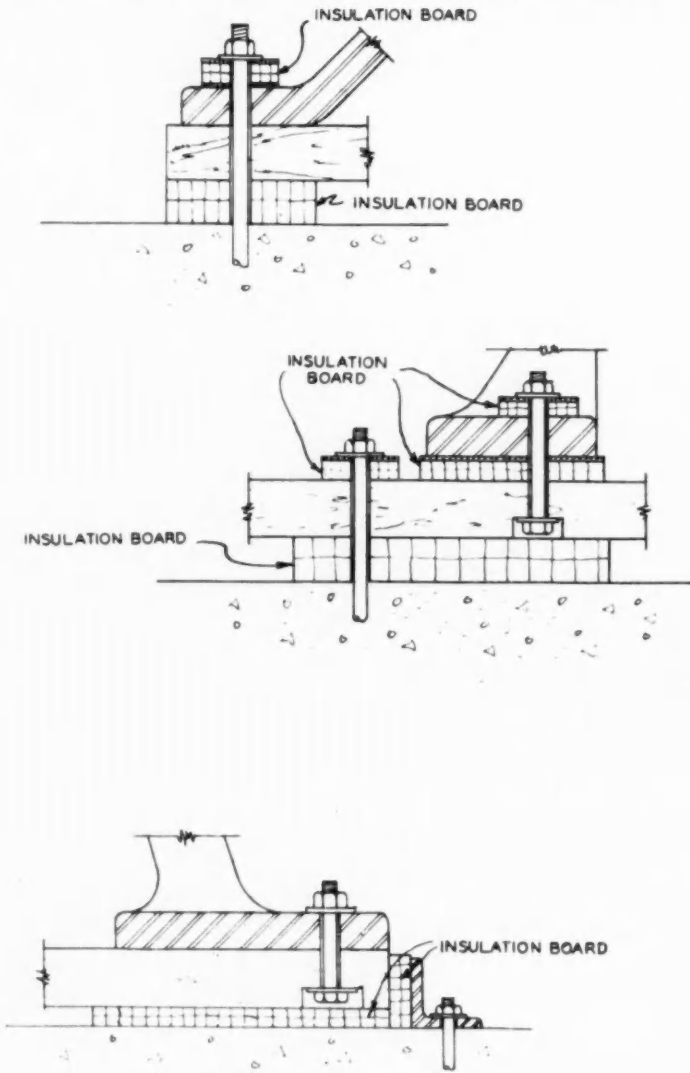

Figure 7. Methods by which insulation board can be used for isolating machinery.
*Machinery vibration.* In general, the transmission of vibration in existing machinery can be reduced by mounting the machines upon a correctly designed resilient base. Figure 7 shows methods by which insulation board can be used for isolating machinery.